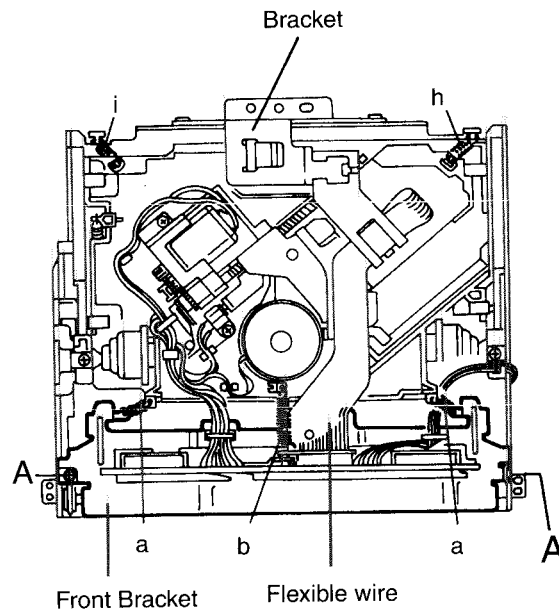

Fig.1
2. Remove the three springs a and b from behind the CD mechanism assembly(See Fig.1).
3. Disc connect the flexible wire connected to the connector on the CD mechanism control board (See Fig.1).
6. Remove the two screws A retaining the front bracket for fixing the CD mechanism control board(See Fig.1).